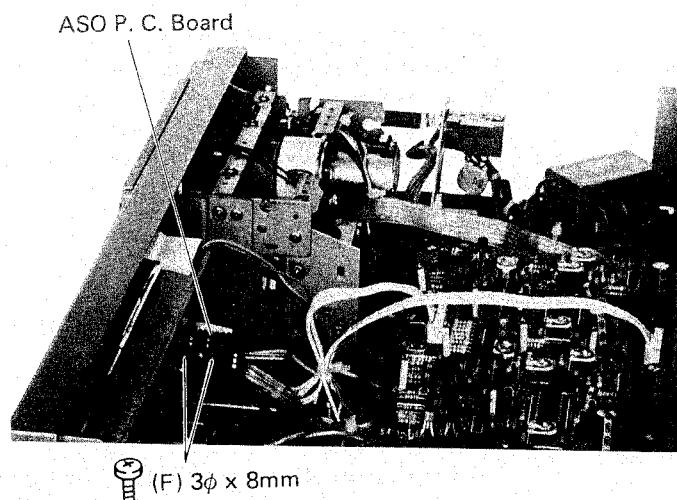

Figure 10
5. Remove two plastic Rivet (F) from ASO P.C. Board and take off the Counter Belt on Tape Counter. See Figure 10.